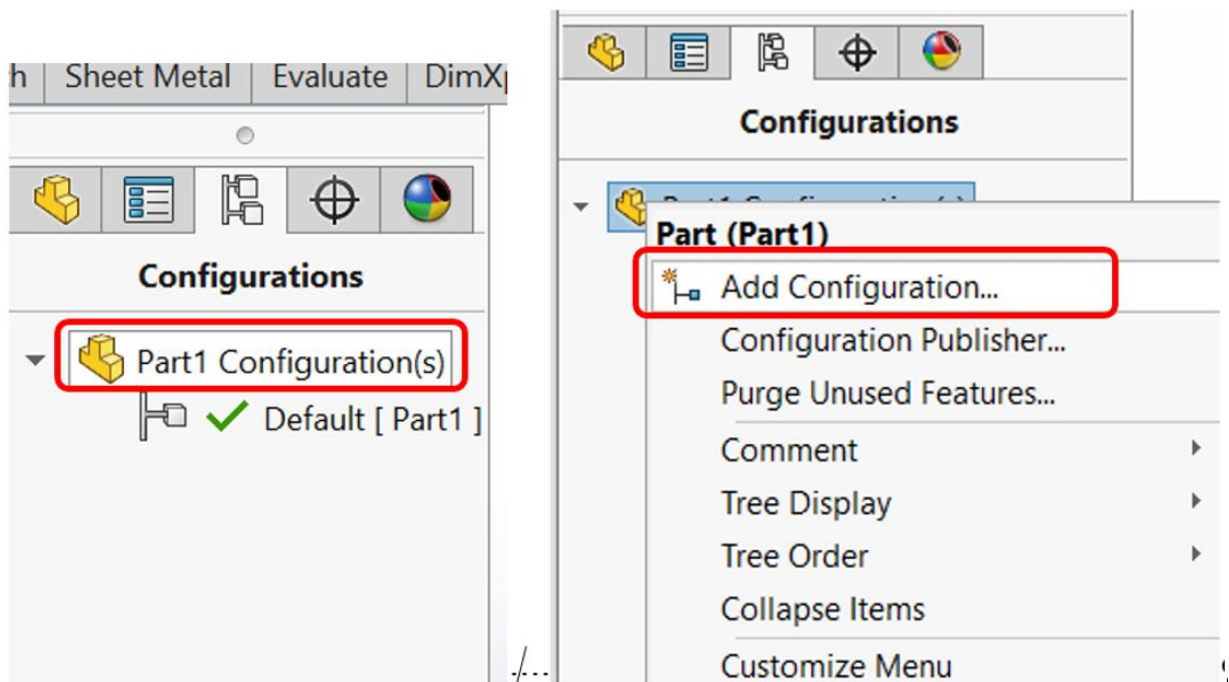

Figure 9 – Adding a new configuration manually
2. In the tab, you need to highlight the name of the part or node. To do this, right-click on the name of the part so that the context menu appears, and select *Add Configuration* (Fig. 9).